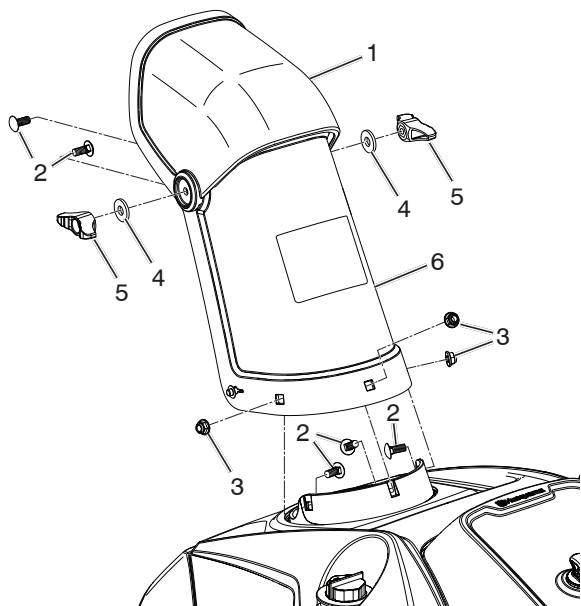

Figure 6
1. Install the chute deflector to the discharge chute using two screws, washers, and deflector knob (Figure 6).